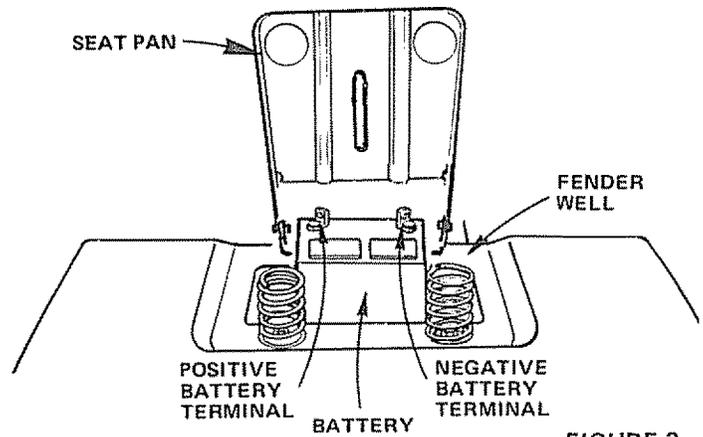

FIGURE 3
- a. Lift Seat Pan so it rests on Steering Wheel (Fig. 3).